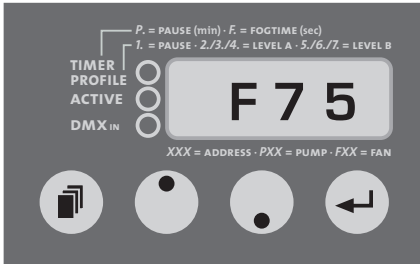

Fig. 2: Adjusting the fan output
- b) Press the Mode-button [14] at the control panel until an F and two figures appear on the LED display [17] (see Fig. 2).